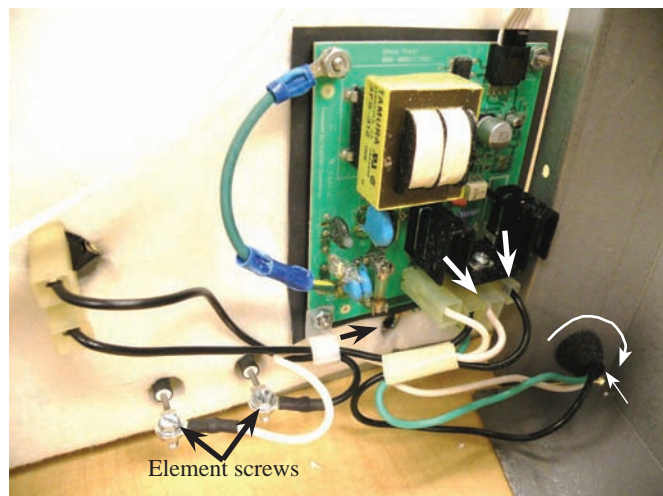

Fig 3
6. Carefully lay electrical cover down and unplug the white, black wires and unscrew the green 1/4" hex ground screw (**Fig 3**).
7. To remove the **electrical cord** from the box, pull rubber seal outward in a rotating motion (**Fig 3**). The electrical cord is now loose and can be replaced by installing in reverse order as above.
5. To remove the **Element**, with the electrical cover off, remove the two (2) 1/4" hex screws holding the black & white wires to the heating element ends (**Page 6, Fig 3**).